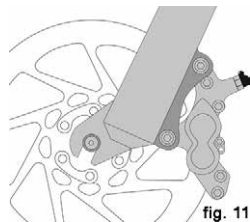
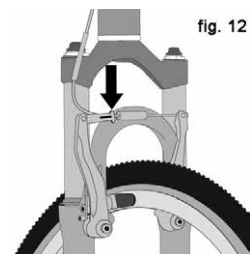

fig. 11
fig. 12
1. If your bike has rim brakes, disengage the brake's quick-release mechanism to increase the clearance between the tyre and the brake pads (See Section 4.C fig. 11 through 15).
2. If your bike has rim brakes, disengage the brake's quick-release mechanism to increase the clearance between the wheel rim and the brake pads (see Section 4.C, figs. 11 through 15).
3. Some bicycle brakes, such as disc brakes (fig. 11) and linear-pull brakes (fig. 12), are extremely powerful. Take extra care in becoming familiar with these brakes and exercise particular care when using them.
Most rim brakes have some form of quick-release mechanism to allow the brake pads to clear the tyre when a wheel is removed or reinstalled. When the brake quick release is in the open position, the brakes are inoperative. Ask your dealer to make sure that you understand the way the brake quick release works on your bike (see figs. 12, 13, 14 & 15) and check each time to make sure both brakes work correctly before you get on the bike.